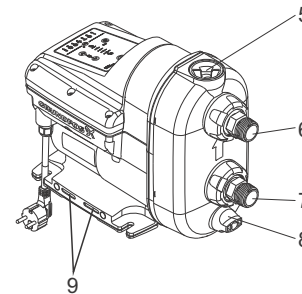

Fig. 20 SCALA2 pump
5. Gradually open and remove the priming plug. See fig. 20 \(5\).
6. Remove the drain plug and drain the pump. See fig. 20 \(8\).
7. Unscrew the union nut holding the inlet connection. See fig. 20 \(7\). Depending on the installation type, it may be necessary to remove the pipes from both the inlet and outlet connections.
5. Gradually open and remove the priming plug. See fig. 20 (5). The plug and non-return valve are one unit.